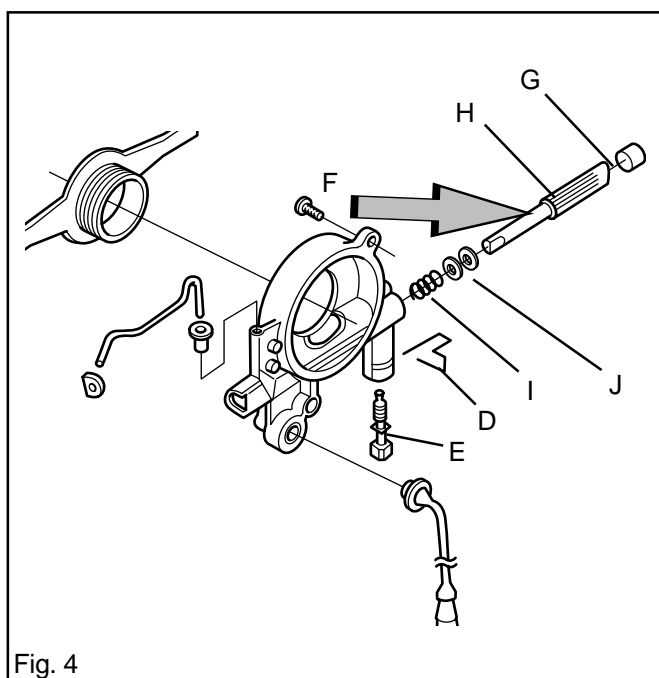

Fig. 4
1. Fit the clutch shoes on the hub and fit the springs with circlip pliers See fig.4.
7. Remove the clip (D) and unscrew the adjuster screw (E). See fig. 4.
8. Use a pair of pliers and push on the pump piston at F so that the cover plug (G) and pump piston (H) can be removed. See fig. 4.
9. Use a pair of pliers and pull out the spring (I) and 2 washers (J). See fig. 4.
2. Place the spring (I), 2 washers (J) and pump piston (H) in the pump housing. Oil in all parts with chain oil. See fig. 4 page 28.
3. Use a screwdriver to press in the pump piston and screw home the adjuster screw (E). See fig.4 page 28.
4. Fit the cover plug (G). See fig.4 page 28.
5. Fit the clip (D). See fig. 4 page 28.
In the cold start mode (fig. 4) the choke valve (D) is fully closed. This increases the vacuum in the carburettor so that fuel is sucked more easily from all the diffuser jets (E, F and G). The throttle valve (H) is partly open.